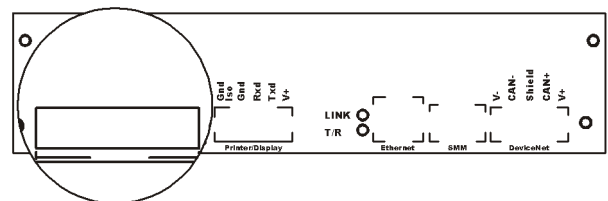

FIG. 5 REAR PANEL/LOAD POINT CONNECTIONS
- Step 3. Screw the two fastener knobs into the threaded holes on each side of the Filler/Dispenser until the brackets are snug against the instrument. (See Fig. 5)